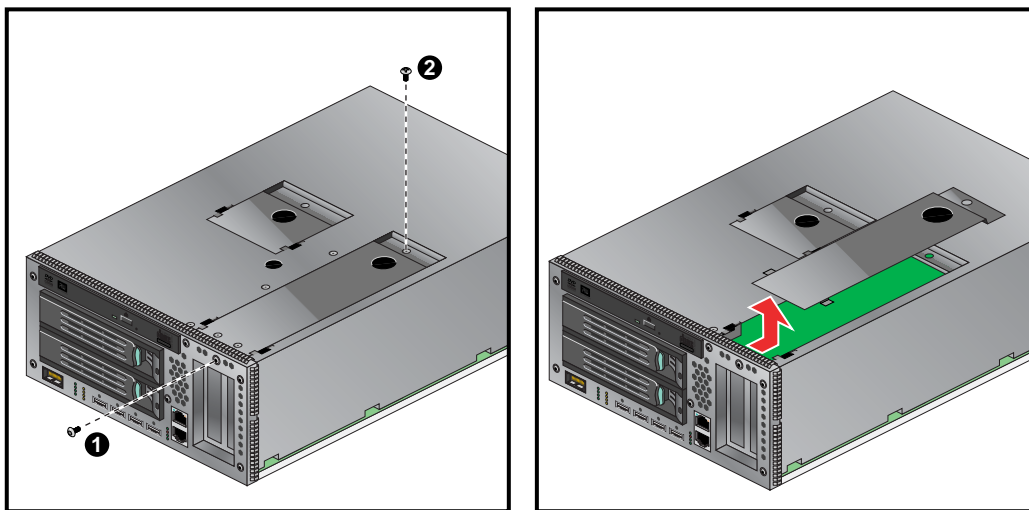

Figure 6-24 Removing the Card Access Panel From the IA Blade
3. After removing the IA blade from the IRU chassis, place it on a stable flat surface with left side facing upward (see Figure 6-24).